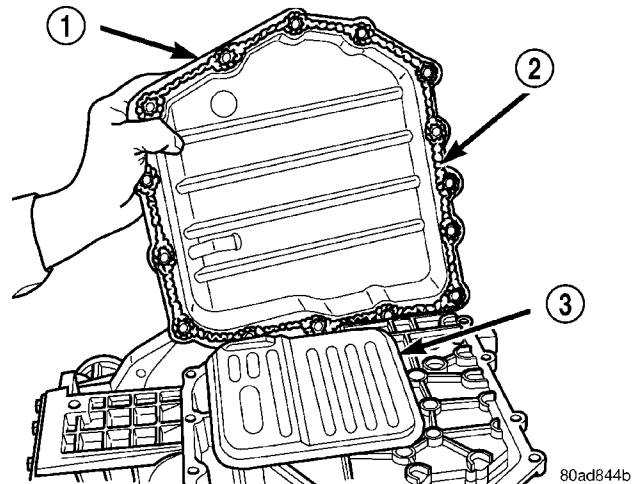
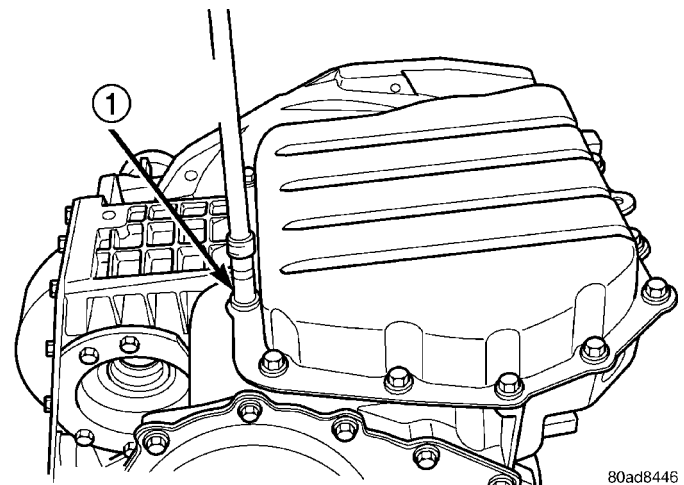

Fig. 375 Oil Pan
Fig. 376 Oil Pan Bolts
(3) Ensure the transaxle oil pan and transaxle case sealing surfaces are clean and dry. Install an 1/8" bead of Mopar® Silicone Rubber Adhesive Sealant to the oil pan and install (Fig. 375). Torque oil pan-to-transaxle case bolts (Fig. 376) to 19 N·m (165 in. lbs.).
- (4) Lower vehicle.
- (5) Connect transmission range sensor connector.
- (6) Install manual valve lever to manual shaft.
- (7) Install gearshift cable to manual valve lever.
- (8) Connect battery negative cable.
- (9) Fill transaxle with Mopar® ATF +4 Transmission fluid. (Refer to 21 - TRANSMISSION/TRANSAXLE/AUTOMATIC - 41TE/FLUID - STANDARD PROCEDURE)